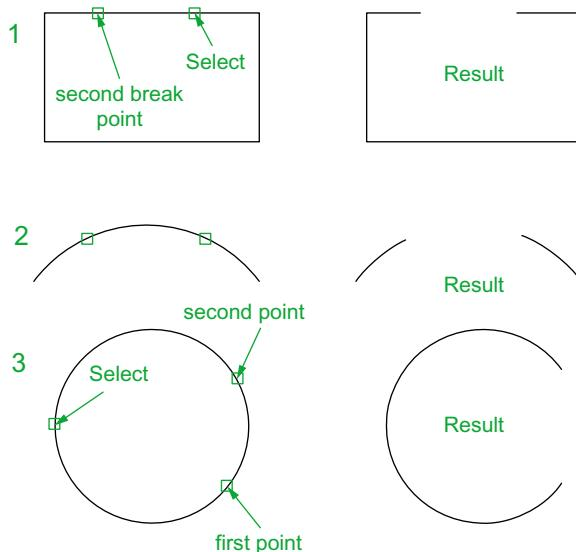

**Fig. 5.35** The Break tool icon from the Home/Modify panel
2. Call **Break** – either click on its tool icon in the **Home/Modify** panel (Fig. 5.35), click **Break** in the **Modify** drop-down menu or enter **br** or **break** at the command line, which shows: